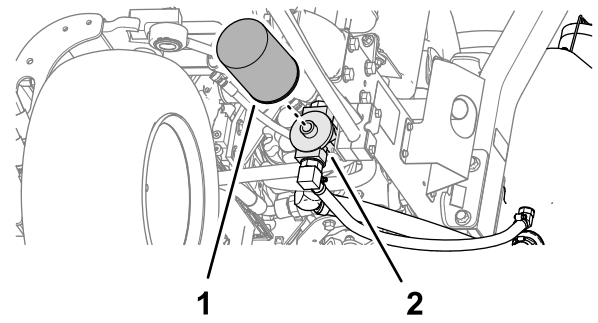

Figure 88
2. Clean around the filter mounting area. Place a drain pan under the filter (Figure 88) and remove the filter.